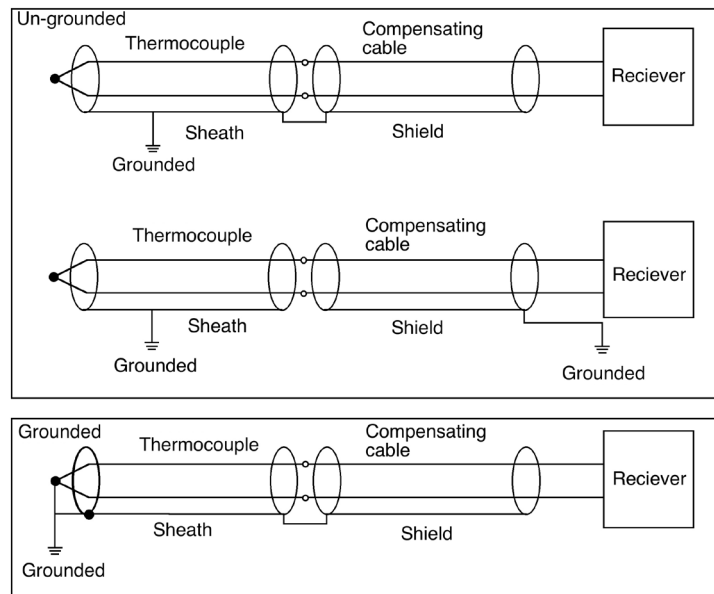

Fig.8 Grounding of Shield
- As shown in the figure of the grounding type of Fig. 8, a shield recommends you the method of grounding in the same part as grounding of a thermocouple.